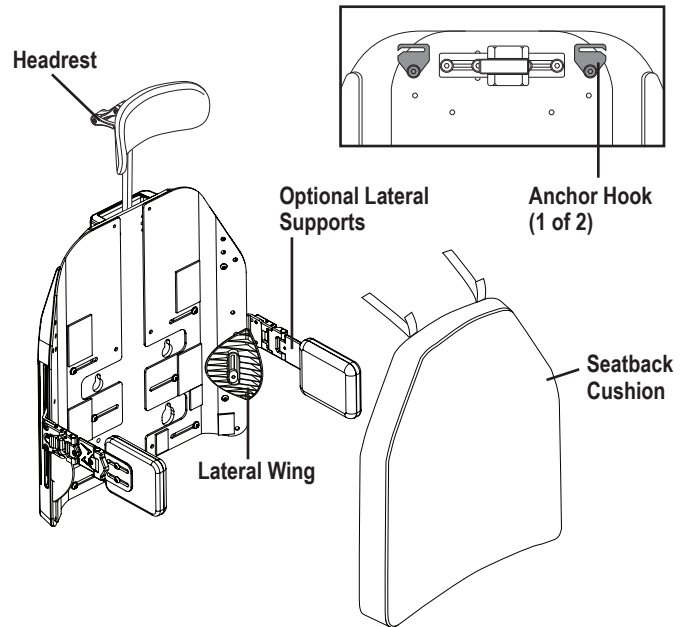

Figure 18. TRU Comfort 4 Components
The TRU Comfort cushion is a unique seatback that is available for user comfort and positioning needs. **Figure 18** provides information on the removable and adjustable TRU Comfort components. Use these diagrams to familiarize yourself with the function and location of each component before using the TRU Comfort cushion. **See figures 18 and 19** to identify which seatback is on your power chair.
1. Position the lumbar and thoracic support(s) as needed for user comfort and positioning flat side down and push onto the seatback. Position the lateral supports and lateral wings as needed and attach with hardware. **See figure 18.**
2. Position the seatback cushion so that the reusable hook and loop fastener straps face the seatback. Place the cushion over any lumbar, lateral, and thoracic support(s). Secure the cushion to the seatback by sliding the two (2) long loop fastener straps through the anchor hooks and pressing the two (2) short hook fastener straps against the longer straps. **See figure 18 or 19.**
1. Remove the seatback cushion from the seatback by detaching the reusable hook and loop fastener straps as well as the reusable fasteners that secure the cushion to the seatback, then pulling the cushion toward you. **See figure 18 or 19.**
6. Once the cover is dry, re-cover the seatback cushion, position the seatback cushion to face the reusable fasteners on the seatback. Secure the cushion to the seatback using the reusable fasteners on the seatback as well as the reusable hook and loop fastener straps. **See figure 18 or 19.**